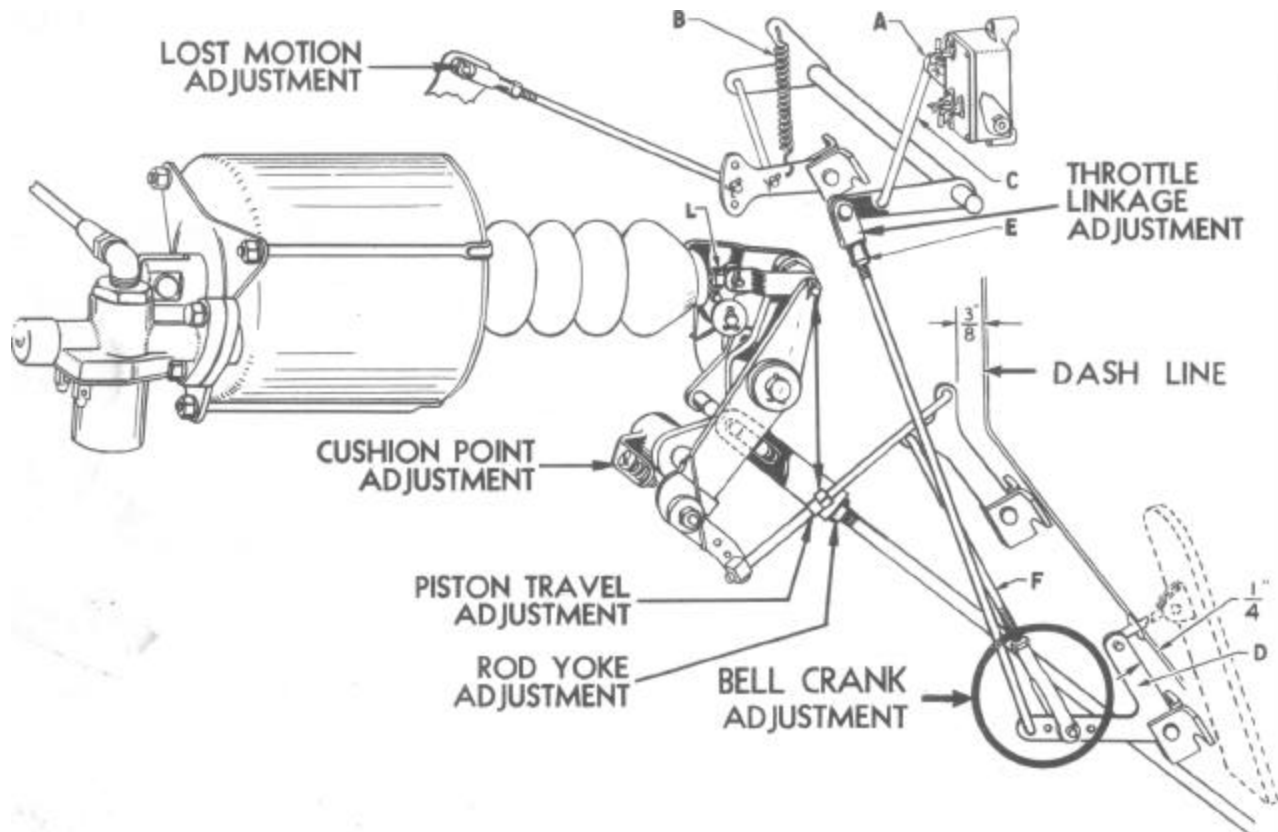

Figure 30--Linkage Adjustments
34. Adjust linkage for proper operation. All automatic control and throttle linkages must work free and without binding. The accelerator switch arm (A), Figure 30, must rest securely against its stop on side of switch by action of the throttle return spring (B) acting through the accelerator switch operating rod (C). Set accelerator pedal bell crank arm (D) to stop 1/4" of toe board by adjusting throttle rod clevis (E). On cars not equipped at factory, remove rubber bumper on accelerator rod as accelerator switch arm (A) must act as a stop for the throttle linkage. Threaded sleeve rod bell crank operating rod (F) must be in the third hole from the end in the lower arm of the accelerator bell crank (D). Adjust rod (F) to give 3/8" clearance between bell crank and dash with motor idling and the vacuum clutch on.